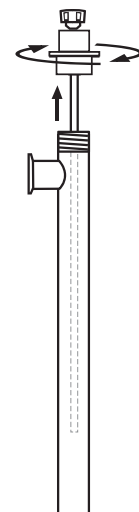

Figure 7
7. Loosen connection flange from inner/outer assembly by turning clockwise. Pull straight up separating the connection flange and drive shaft from the inner / outer tube assembly (see Figure 7).